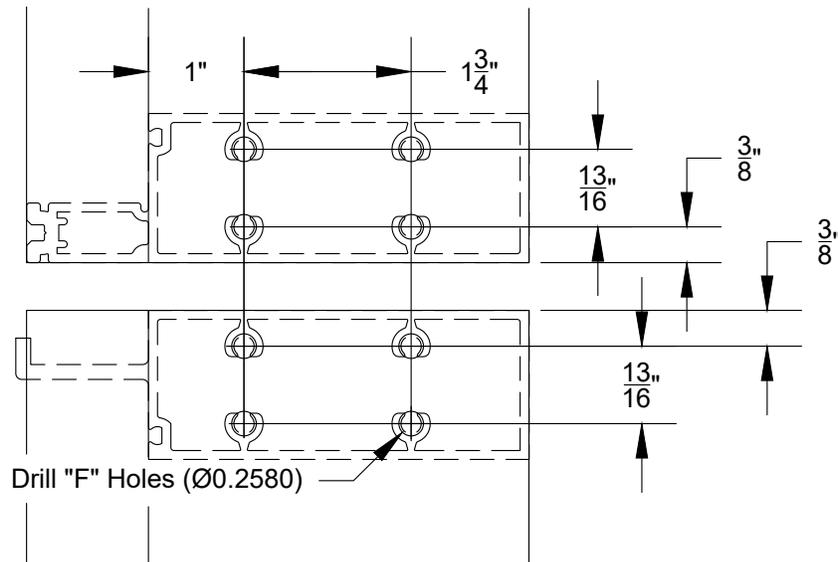
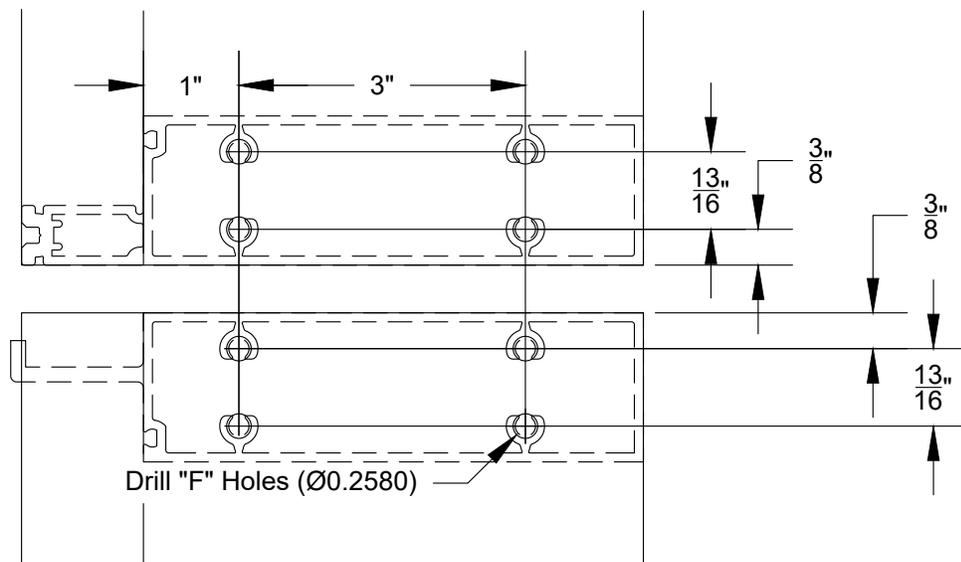

FIGURE 17
FIGURE 18
- 2.27 When using the WW-427 & WW-428, horizontals for the expansion horizontal connection fabricate top and bottom of mullion as shown in **FIGURE 17**. If using WW-527 & WW-528 fabricate per **FIGURE 18**.